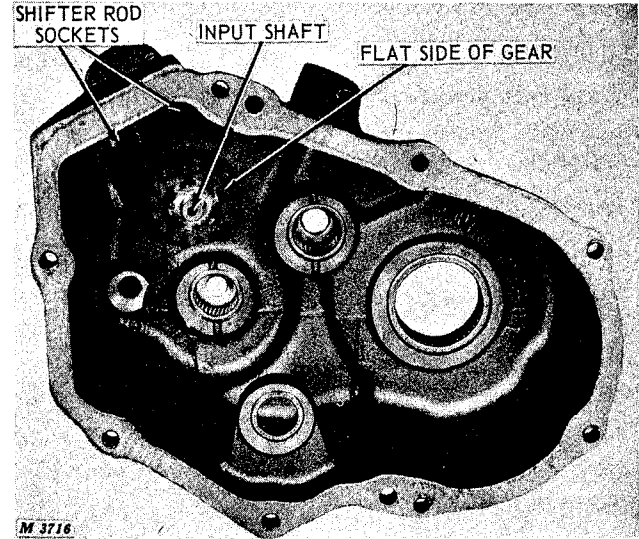

Fig. 16-Gear Removal Sequence
*NOTE: Input shaft, Figure 16, is installed with a press fit. If close inspection reveals that gears and bearing are satisfactory, do not remove input shaft.*